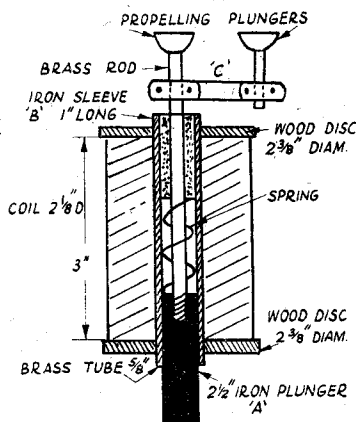

Fig. 2. Details of solenoid magnet
Details for making a suitable solenoid magnet may be seen in Fig. 2, although it is often possible to purchase one quite reasonably from dealers in second-hand electrical accessories. The coil should be wound with about 15 layers of No. 16 single copper-covered or enamelled wire. A brass rod is threaded or pinned to the end of a 2½-in. soft-iron plunger (A) as shown. The upper end of the brass rod passes through a hole drilled in the centre of the 1-in. iron